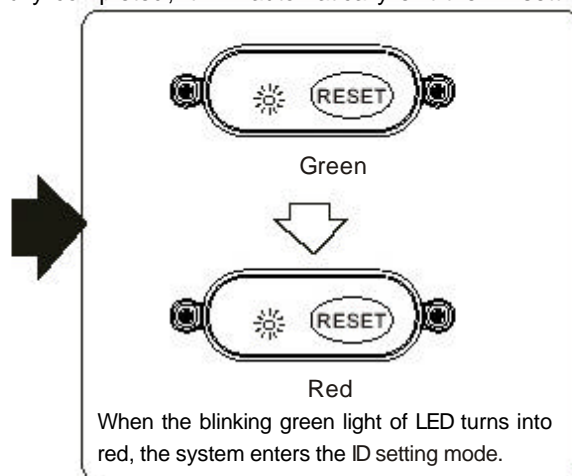
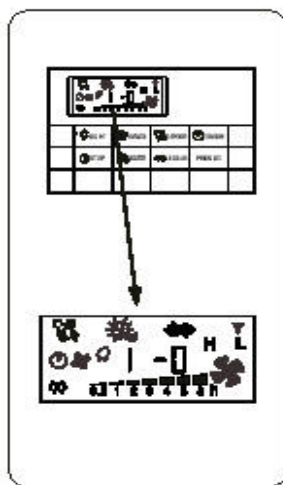

Fig. 2
Fig. 3
2. Open the lid of the battery compartment on the remote control. Note the opening direction (as shown in Fig. 2). Insert 3 AA alkaline batteries, (Fig. 3), and then close and screw the lid of the battery compartment. (Fig. 4)
2. Take out the plug of the DC jack on the remote control (Fig. 2), insert the DC connector of the adapter (Fig. 3) and then plug the power cord to the electrical outlet adjacent to the light switch pad outside the bathroom. (Fig. 4)
2. The adapter of the remote control must be unplugged and then plugged in again (Fig. 1). If it is powered by the batteries, it is necessary to remove the batteries and then replace them (Fig. 2). As the LCM shows the "Version" screen (Fig. 3), press the "TIMER" button and the "PRESE" button at the same time (Fig. 4) to enter the setting operation. This operation procedure should be completed within 60 seconds after the RF receiver enters the ID setting mode. Otherwise, an error (Err) will occur (Fig. 6). Now, press the RESET button of the dryer to complete the operation. If the setting operation is successfully completed, it will display "GOD" and the last 3 digits of the set ID code at this time (Fig. 5). After the screen is cleared, normal operations can be performed. If the setting operation fails, it will display "Err" (Fig. 6)